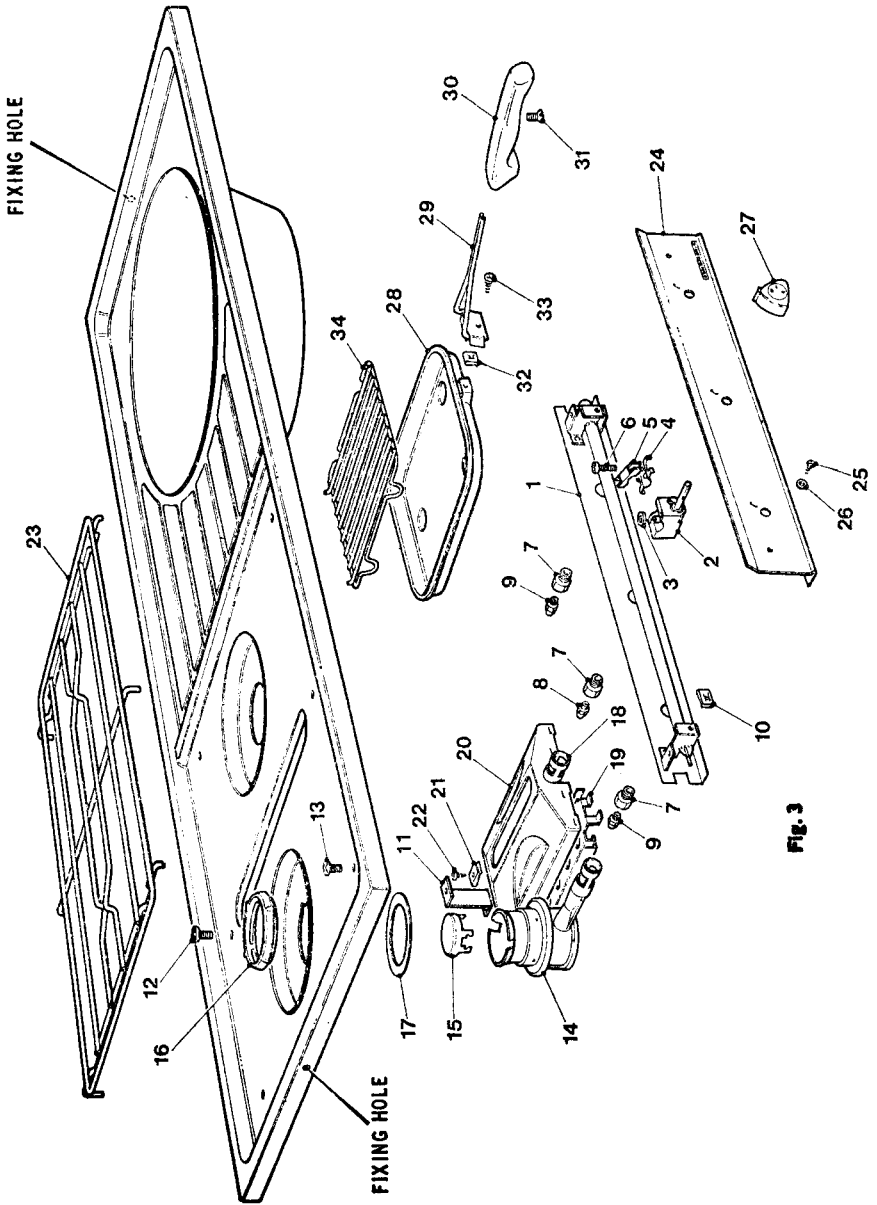

Fig. 3
2. Unscrew (anticlockwise) and remove locking rings from boiling burners, then locate both boiling burner assemblies on injector holders and insert burner pots through holes in spillage bowls. Ensure that gaskets are in correct position and not damaged in any way. (See Fig. 3).
**NOTE.** To avoid undue strain on the gas connection, the unit must be securely fixed to the cabinet in which it is installed. Two fixing holes are provided, one in each end flange (see Fig. 3).
## PARTS LIST — LEISURE "PRINCESS" (see Fig. 3)